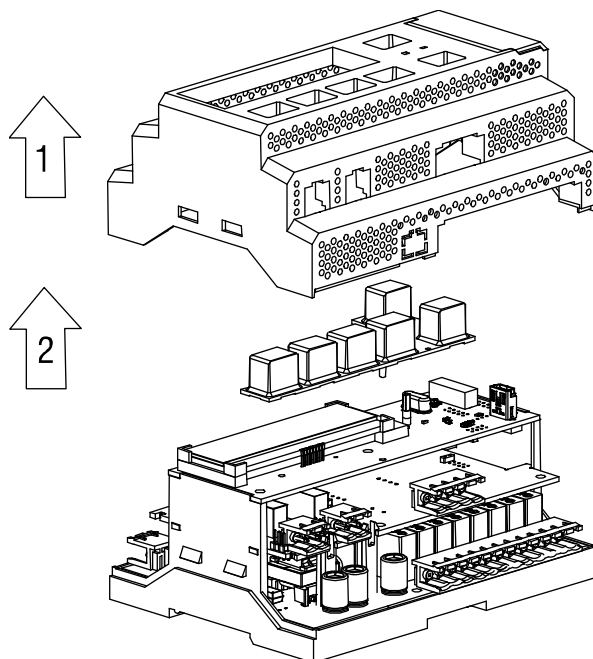

Fig. G.1 Front housing removing
1. Remove the front housing with the keypad (Fig. G.1)
1. Remove the top cover with the keypad (Fig. G.1).